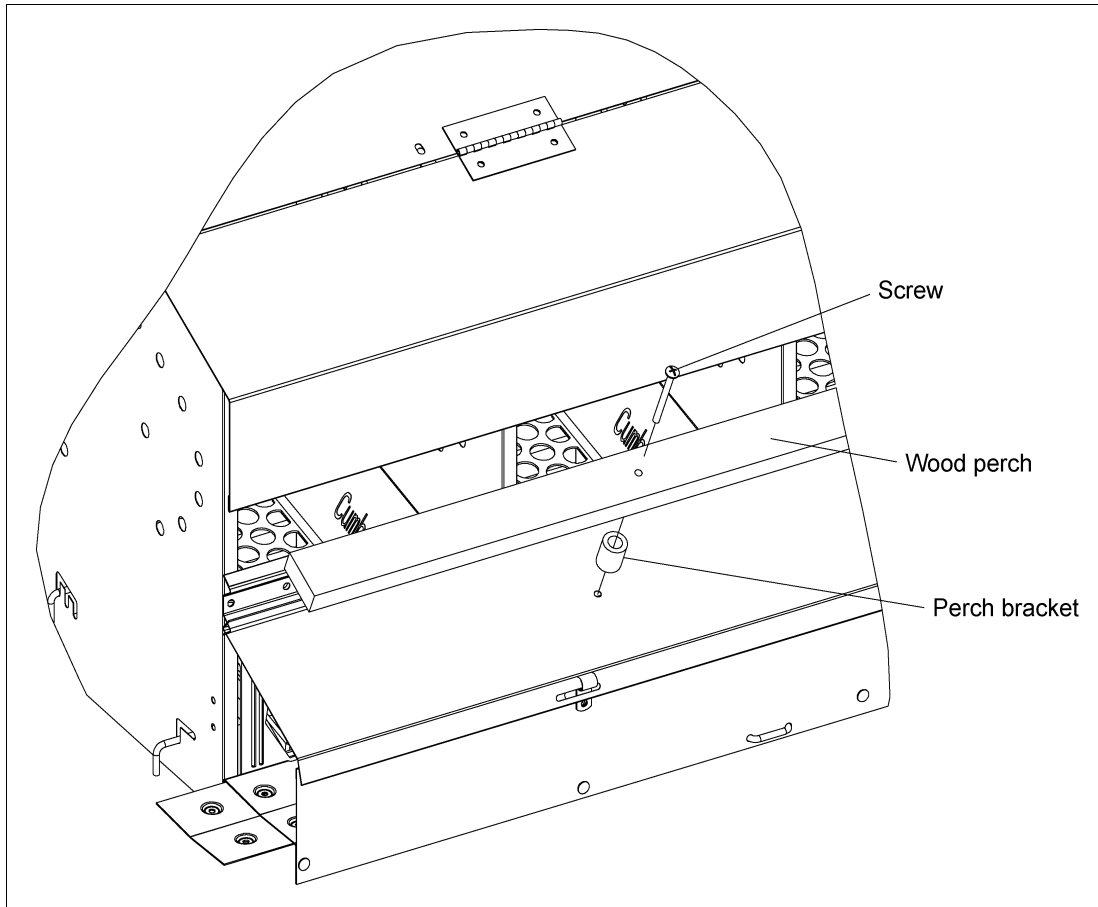

Figure 4N Perch Assembly
13. Place perch bracket with the legs on the perch bracket against the egg tray cover. Insert a #10-24 x 2-1/4" screw down through the wood perch, perch bracket and egg tray cover and secure with a #10-24 nylock nut. Do not tighten completely until the wood perch is assembled onto all brackets. Repeat this step for the other three (3) brackets. Tighten all nuts until head of screw is flush with wood. Repeat this process on the other side of the nest. (See Figure 4N.)